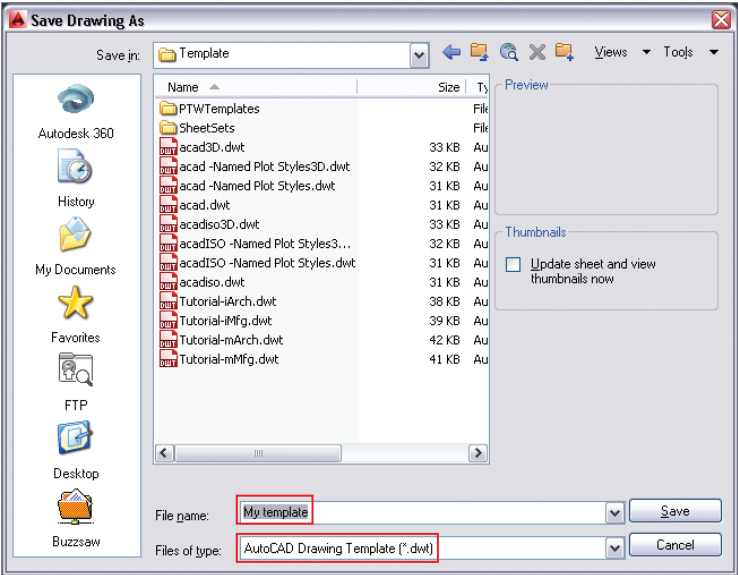

FIGURE 14.15 Saving a new drawing template
5. Click the Save As button in the Quick Access toolbar. Change the Files Of Type drop-down in the Save Drawing As dialog box that appears to AutoCAD Drawing Template (*.dwt). Type **My template** in the File Name text box (see Figure 14.15). Click Save.